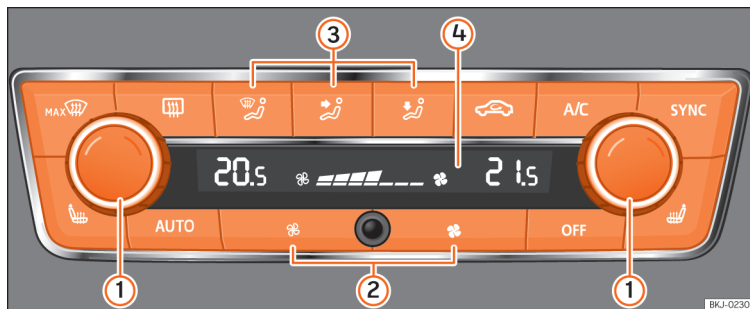

Fig. 171 Climatronic: controls.
- Adjust fan power to zero »» Fig. 171 ② or press the **OFF** button.
- Press the button **AUTO** »» Fig. 171.
- When you switch on the ignition, control **1** >>> **Fig. 171** can be used to set the required interior temperature.
- Press the button **MAX**  >>> **Fig. 171**.